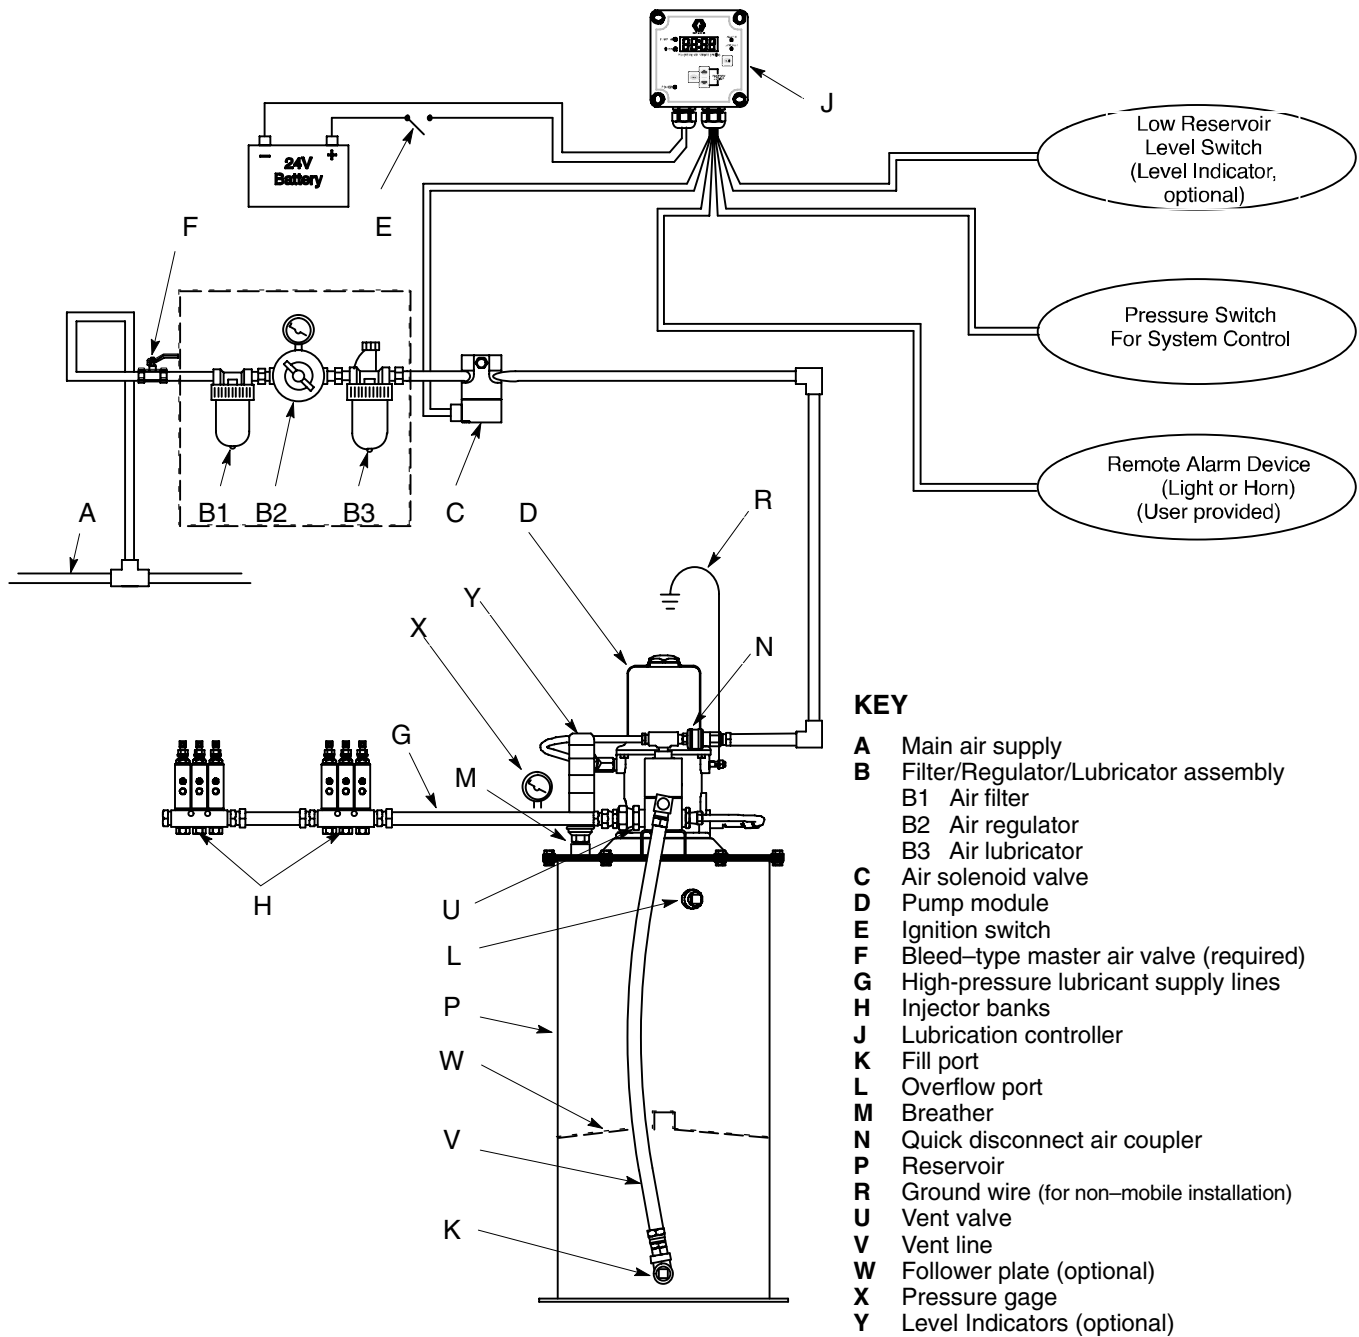

Fig. 2
The installation shown in Fig. 2 is only a guide for selecting and installing system components. Contact your Graco distributor for assistance in planning a system to suit your needs.
1. Fig. 2. Disconnect power from Lubrication Controller (J).
2. Disable air supply to pump (D) by one of the following means:
- Close bleed-type air valve (F).
- Disconnect quick disconnect air coupler (N) from tee on vent valve.